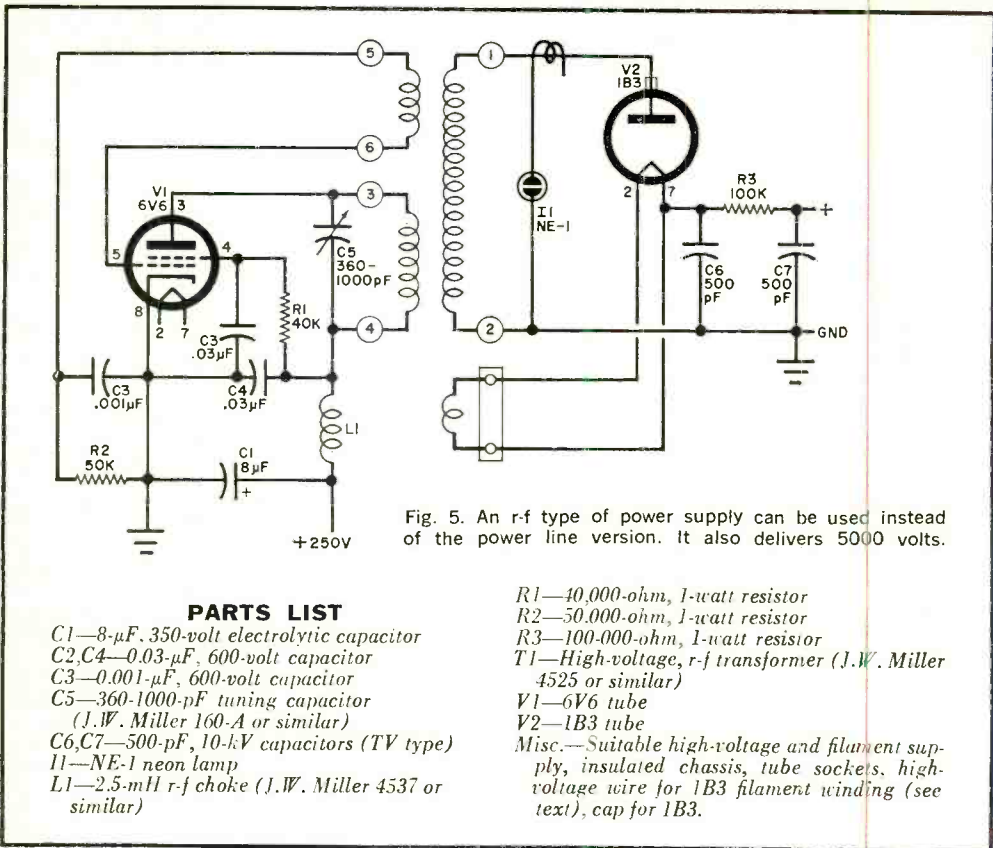

Fig. 5. An r-f type of power supply can be used instead of the power line version. It also delivers 5000 volts.
**R-F High-Voltage Supply.** A schematic for a radio-frequency high-voltage unit is shown in Fig. 5. It is an inexpensive and slightly less dangerous alternate to the supply described above.
loading. After wiring is complete, remove rectifier tube *V2* and adjust the oscillator for maximum output power by tuning capacitor *C5* with an insulated alignment tool. Place a "gimmick" or single-turn coupling loop with a neon lamp on the output of *T1* as shown in Fig. 5 and tune the circuit until the lamp attains maximum brilliance. Remove the neon lamp and gimmick after tuning is complete. In operation, it is proper for the filament of the 1B3-GT to glow a dull red.